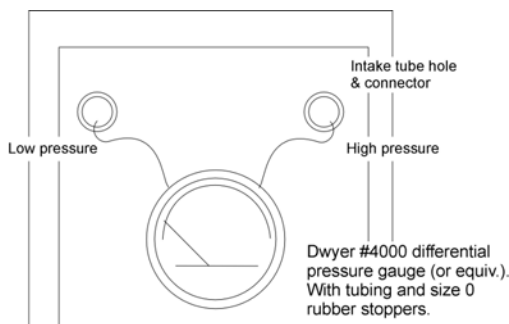

Figure 2: Air Sampling Verification
9. Verify proper air sampling by using a differential pressure gauge (Dwyer Model 4000 or equivalent). See Figure 2 for connections.